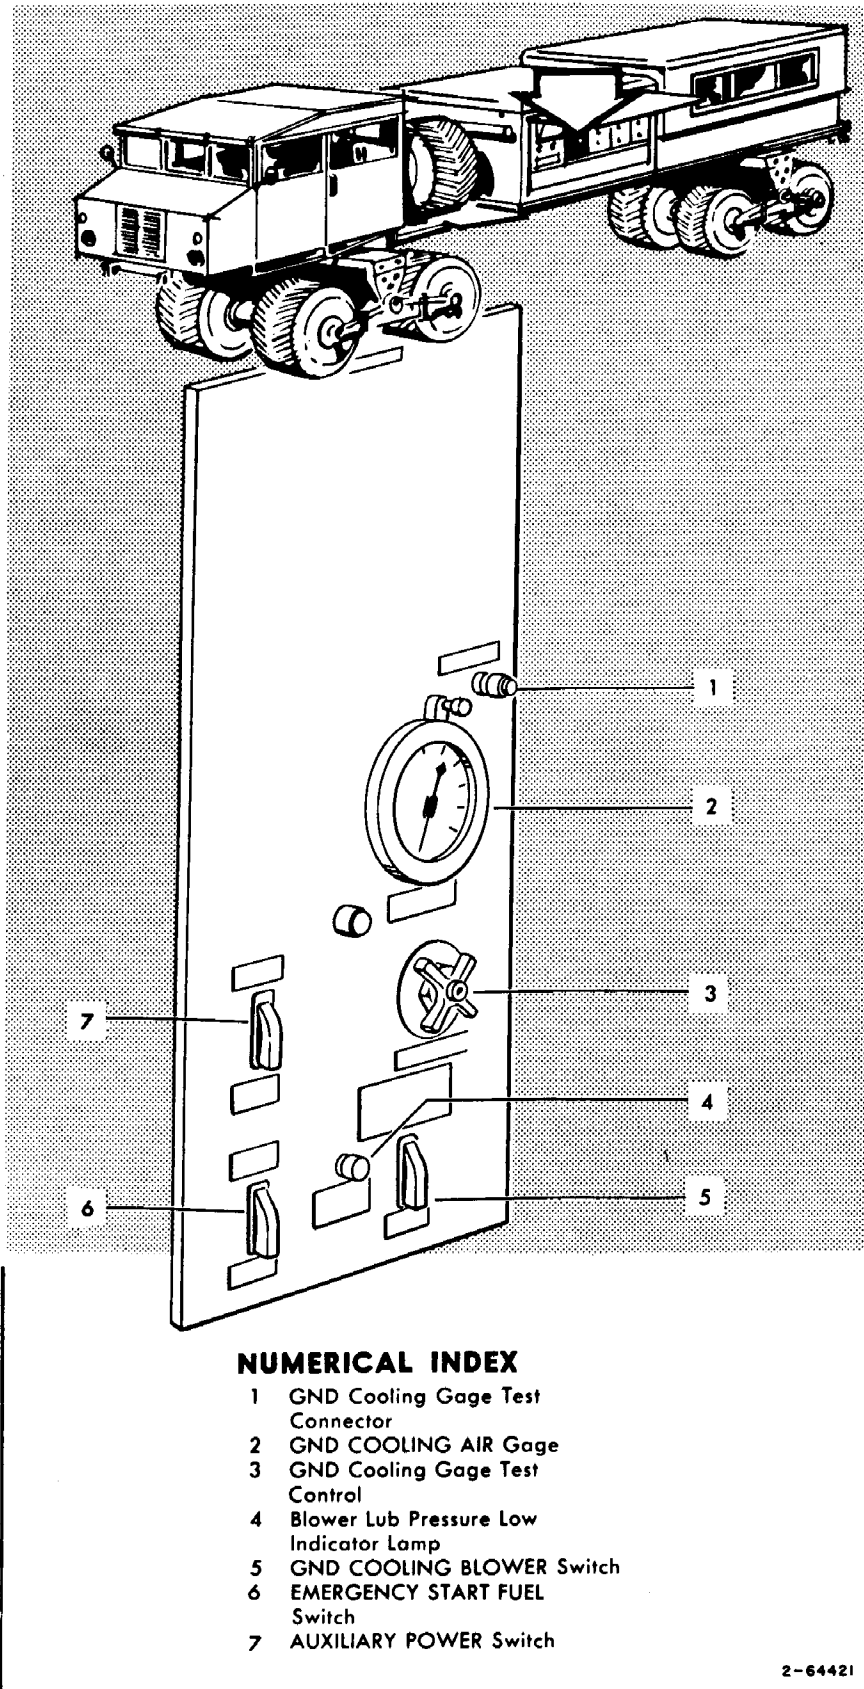

Figure 3-32. Pneumatic Control Panel
- c. Place GND COOLING BLOWER switch (5, figure 3-32) ON.
- d. After brief operation, GND COOLING AIR gage (2) must indicate approximately 35 psi.